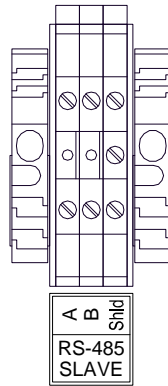

Figure 16 N4X RS-485 Slave Port Connections
- If linking the X40 enclosure to an RD-64X remote display unit, connect the unit to the slave port terminals labeled **RS-485 Slave: 'A', 'B', and 'Shld'** (Figure 16).